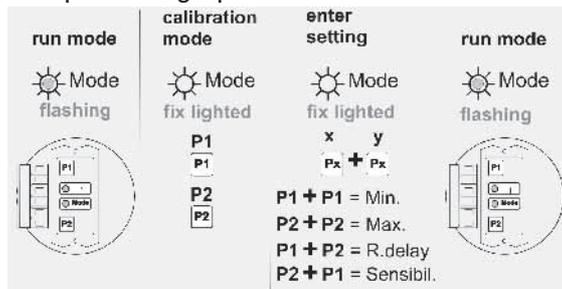

fig.6
- To set **MIN** level control mode (normally energized relay, LED on, with tuning fork covered by the product) press simultaneously P1 and P2, release them and verify that the MODE led will stay fix lightened. Press two times P1, release it and wait until the MODE led is single flashing (fig.6).
- To set **MAX** level control mode (normally energized relay, LED on, with tuning fork uncovered by the product) press simultaneously P1 and P2, release them and verify that the MODE led will stay fix lightened. Press two times P2, release it and wait until the MODE led is double flashing (fig.6).